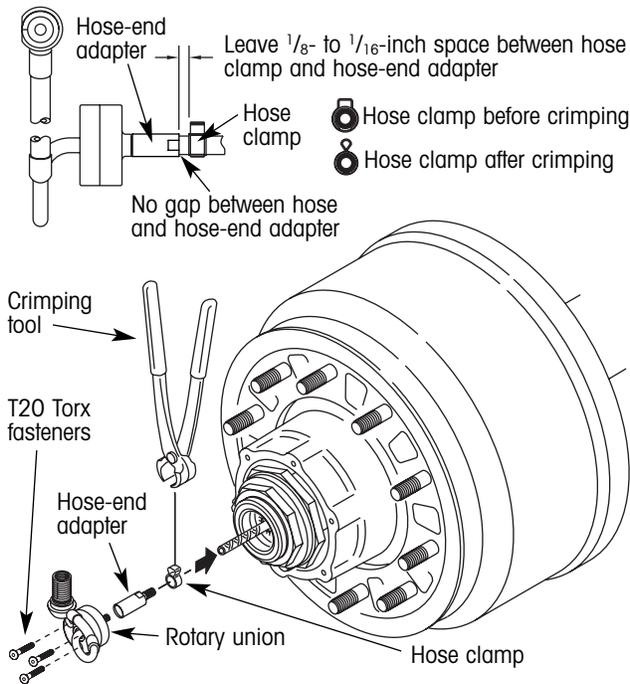

Figure 4. Rotary union installation
- a. Place the hose clamp from the replacement kit onto the braided hose sticking out of the spindle plug (figure 4).
- b. Slide the barbed end of the hose-end adapter completely (no gap) into the end of the braided hose assembly (figure 4).
4. Insert three T20 Torx fasteners from the replacement kit into the rotary union and fasten to the spindle plug (figure 4). Tighten the fasteners to 45 ± 5 in. lbs. ($5 \text{ N}\cdot\text{m} \pm \frac{1}{2} \text{ N}\cdot\text{m}$) of torque.